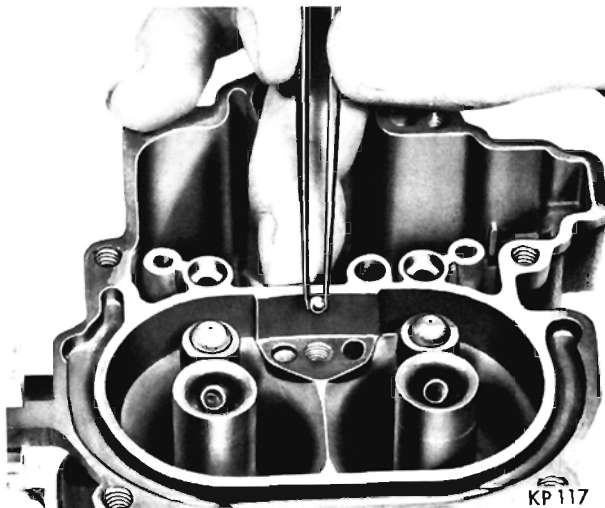

Fig. 11—Installing Discharge Check Ball
(7) Install the accelerator pump discharge check ball ($1/8$ inch diameter) in the orifice in the center passage of the discharge strut section of the main body, as shown in (Fig. 11).